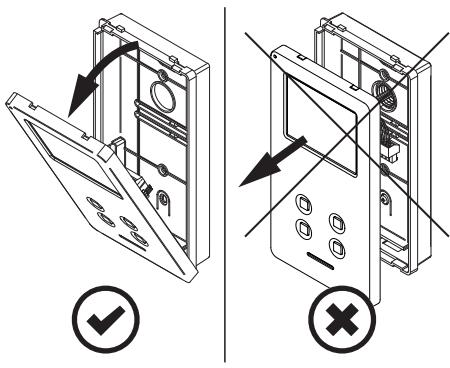

Fig. 4
2. Pull outwards the upper part of the cover as shown in **Fig. 4**. **Don't pull the cover straight**.